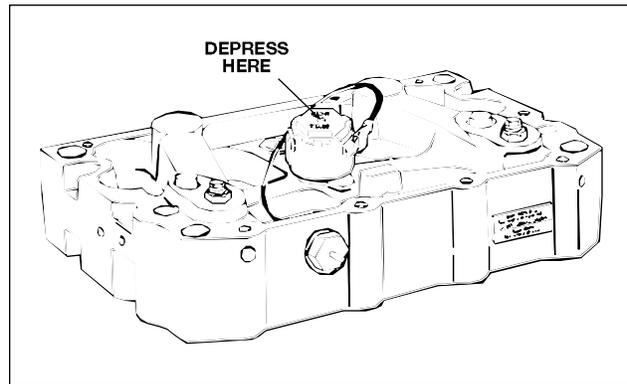

FIG. 11
2. To bleed the brake us and check their operation, start the engine and allow to run 5 to 10 minutes. With the engine brake switch off, accelerate engine to approximately 1800 RPM. Release throttle and manually depress each solenoid armature (Fig. 11). Repeat this procedure five or six times to permit engine oil to fill the brake housings.